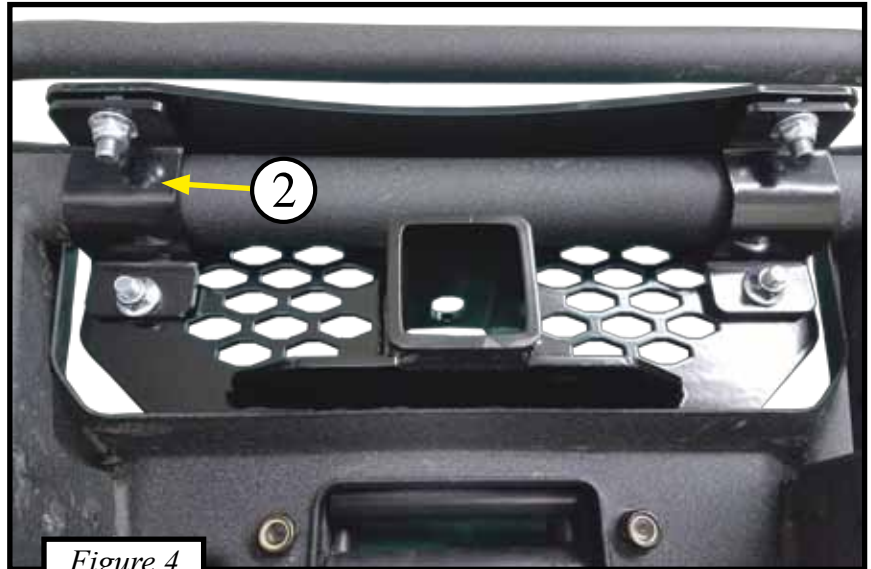

Figure 4
4. If you have a winch you will need to attach your roller fairlead to the receiver mount and bolt down using the two 3/8 flange bolts and nuts. Shown in Figures 4 & 5. Skip to Step 6.
6. Tighten all of your hardware down to your bumper, making sure that your brackets (2) are tightened evenly.